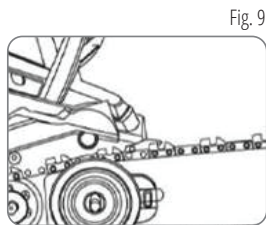

Fig. 9
5. Grasp the guide bar and the saw chain so that the centre hole of the disk wheel is inserted into the screw stud, and lop the saw chain onto the sprocket (see fig. 9).